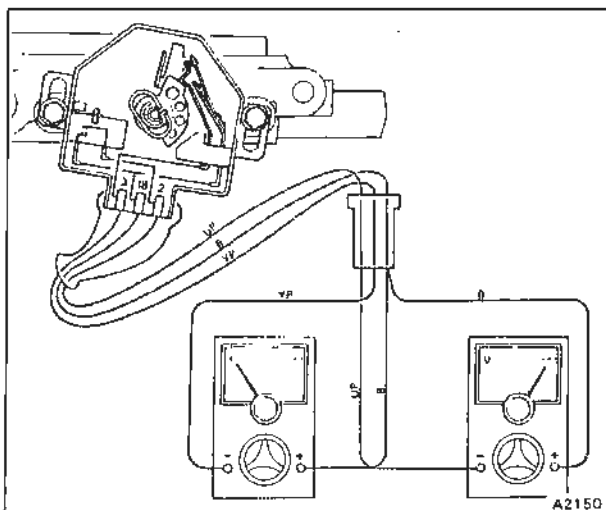

Fig. E6-6 Throttle position switch – full load condition
- f. With the throttle plates fully open (the switching point is just before full throttle and there is no audible click), only switch contacts 3 and 18 are connected (see fig. E6-6).